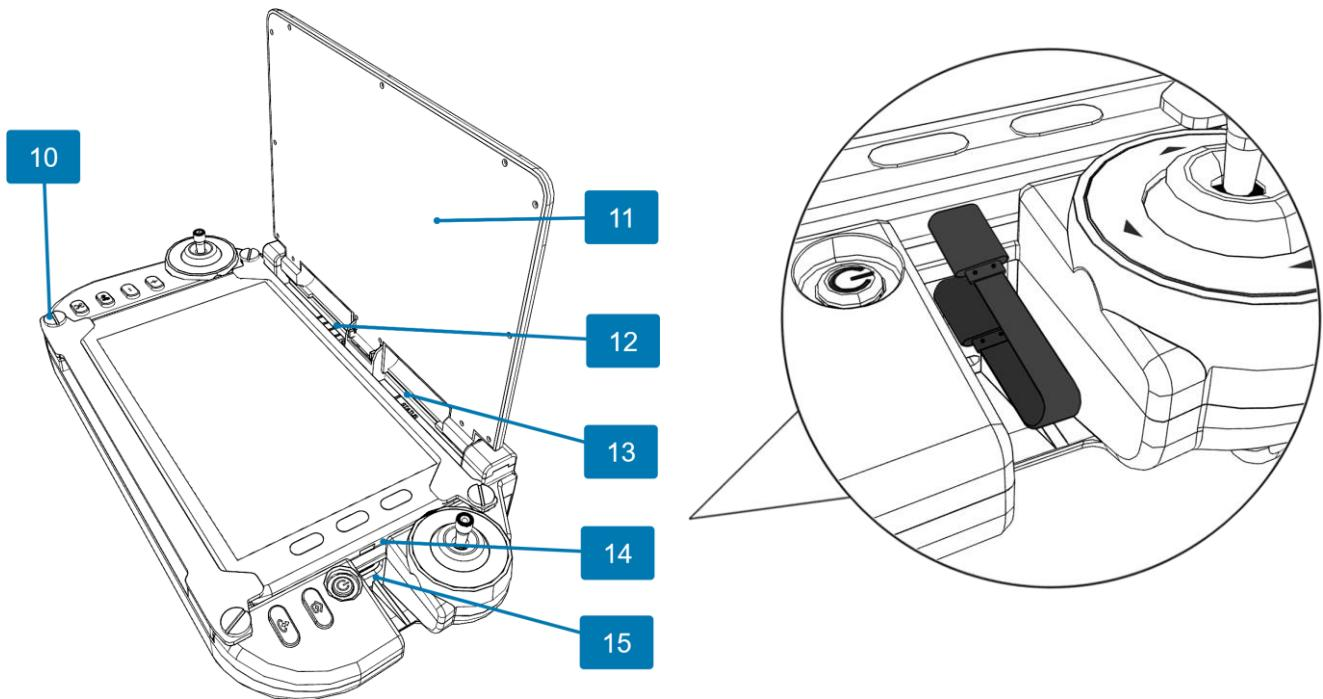
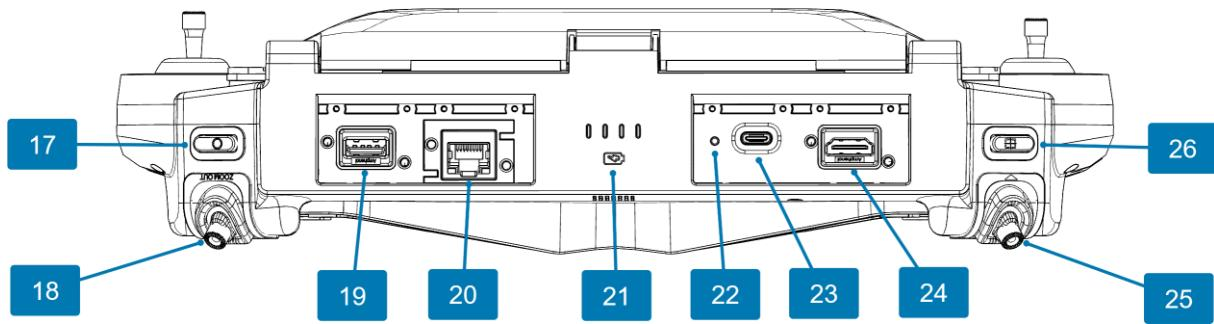

Figure 4: Skycontroller UKR open, showing USB-C to USB-C cable
Figure 5: Skycontroller UKR rear view, plastic covers removed
NOTE: Nos. 19, 20, 22, 23, and 24 (Figure 5) are underneath the 4 plastic covers on Skycontroller UKR. The plastic covers are not shown in the image above for clarity.
The device on Skycontroller UKR is held in place by 2 brackets and 4 screws (No. 10 in Figure 4). The device can be removed or replaced by unscrewing the screws and lifting the device out of Skycontroller UKR.
Press and hold the  Power button (No. 7 in Figure 4) for 2 seconds to turn on the Skycontroller UKR.
- USB-A port (*No. 19 in Figure 5*) – used for drone/controller pairing
- Ethernet port (*No. 20 in Figure 5*) – used for remote antenna connection, webserver access
- USB-C charging port (*No. 23 in Figure 5*) – used for charging
- HDMI port (*No. 24 in Figure 5*) – used for video output
When the Skycontroller UKR is powered on, its status LED indicator (*No. 13 in Figure 4*) and its charging LED (*No. 12 in Figure 4, No. 21 in Figure 5*) provide an instant visual indication: